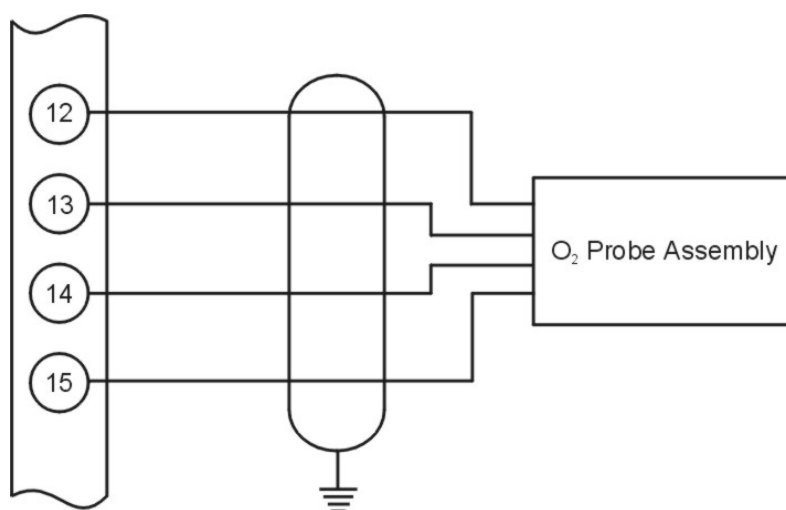

Figure 3-1: Oxygen Probe Assembly
NOTE: The cable shield should be connected to ground only at one end of the cable (this applies to each probe connection). See Figure 3-1.
Care must be observed to ensure that the probe leads are not inadvertently connected to the signal common (C) or to the power ground while energized. (See Figure 3-1)